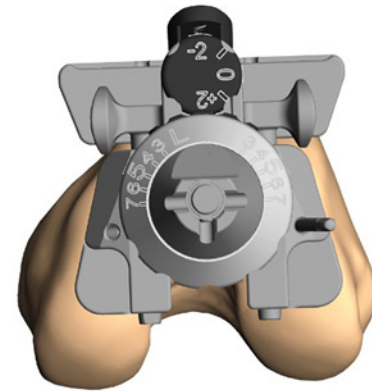

Figure 7
4. Orient rotation of the assembly neutral to the posterior condyles (Figure 7) insert a headed or non-headed 65mm SPEED PIN[®](s) into one or both of the oblique pin holes.